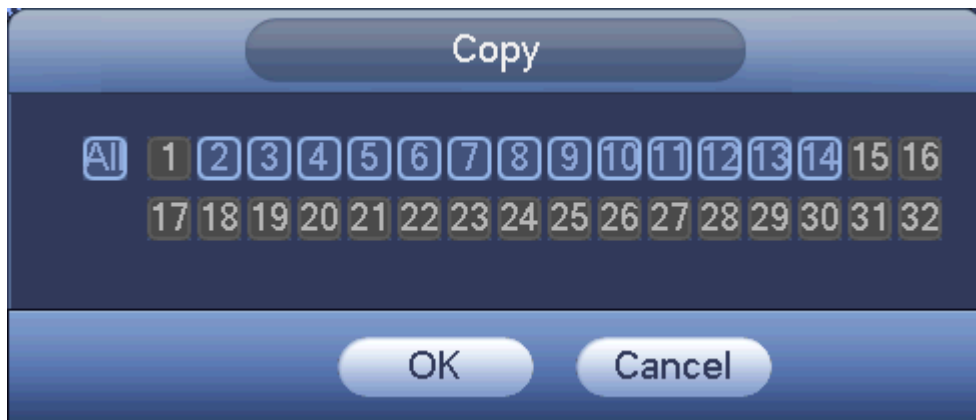

Figure 4-59
- Copy: After you complete the setup, you can click Copy button to copy current setup to other channel(s). You can see an interface is shown as in Figure 4-59. You can see current channel number is grey. Please check the number to select the channel or you can check the box ALL. Please click the OK button in Figure 4-59 and Figure 4-57 respectively to complete the setup. Please note, once you check the All box, you set same encode setup for all channels. Audio/video enable box, overlay button and the copy button is shield.